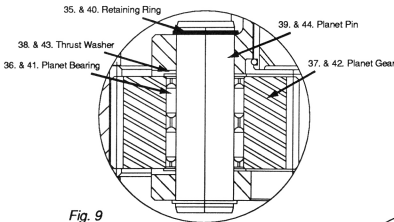
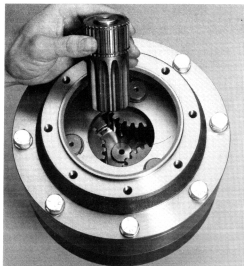

Fig. 9
Fig. 12
1. Lubricate planet bearings (36) and slip into planet gear (37). (Fig. 9)
2. Lubricate thrust washers (38), place one washer on each side of planet gear (37). **Place planet gear and thrust washer in planet carrier (28).** (Fig. 9)
4. Secure planet pin (39) with retaining rings (35) on each end of planet pin. (Fig. 9)
6. Lubricate spline on intermediate gear (24), seat retaining ring (26) in groove between spline and gear. Stand intermediate gear on gear end, lay other retaining ring (26) on splined end, slide small planet carrier assembly spline onto splined end of intermediate gear (24). With appropriate tool, seat retaining ring (26) into groove at end of intermediate gear (24).
7. Lubricate planet bearings (41) and press into planet gear (42). (Fig. 9)
8. Lubricate planet pin (44) and insert into planet pin hole in planet carrier (20) from splined side of carrier. (Fig. 9)
9. Lubricate thrust washers (43), place one washer on each side of planet gear (42). Place planet gear and thrust washer in planet carrier (20). Drive planet pin (44) through thrust washers and planet gear, into opposite planet pin hole in carrier housing. (Fig. 9 & 5)
10. Secure planet pin (44) with retaining rings (40) on each end of planet pin. (Fig. 9)
24. Remove retaining rings (35) from ends of planet pins (39). (Fig. 9)
25. Support small planet carrier (27) spline side down and drive planet pins (39) out of planet carrier (27), from input side of carrier. (Fig. 9 & 5)
26. Remove small planet gears (37) and thrust washers (38) from small planet carrier (27). (Fig. 9)
27. Remove planet bearings (36) from small planet gears (37).
28. Remove retaining ring (26) from intermediate gear (24).
29. Remove intermediate gear (24) from small planet carrier (27). (Fig. 12)
30. Remove retaining rings (40) from ends of planet pins (44). (Fig. 9)
31. Support planet carrier (20) spline side down and drive planet pins (44) out of planet carrier (20). (Fig. 9 & 5)
32. Remove planet gears (42) and thrust washers (43) from planet carrier (20). (Fig. 9)
29. Turn unit over and support, shaft down. Lubricate intermediate gear and small planet carrier assembly, place gear in mesh with large planet gears. (Fig. 12)
30. Lubricate 'O' rings (29). Place one 'O' ring onto pilot of transition plate (22).